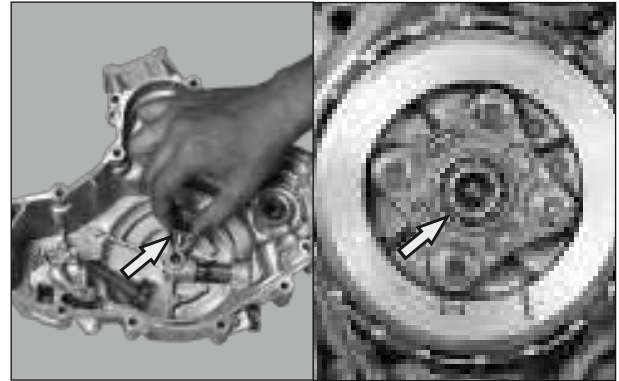

Fig. 3.163
- Assemble the ball bearing on the centre assembly clutch.(Fig. 3.163)
- Insert the pin clutch release on the rod complete clutch release. (Fig. 3.163)